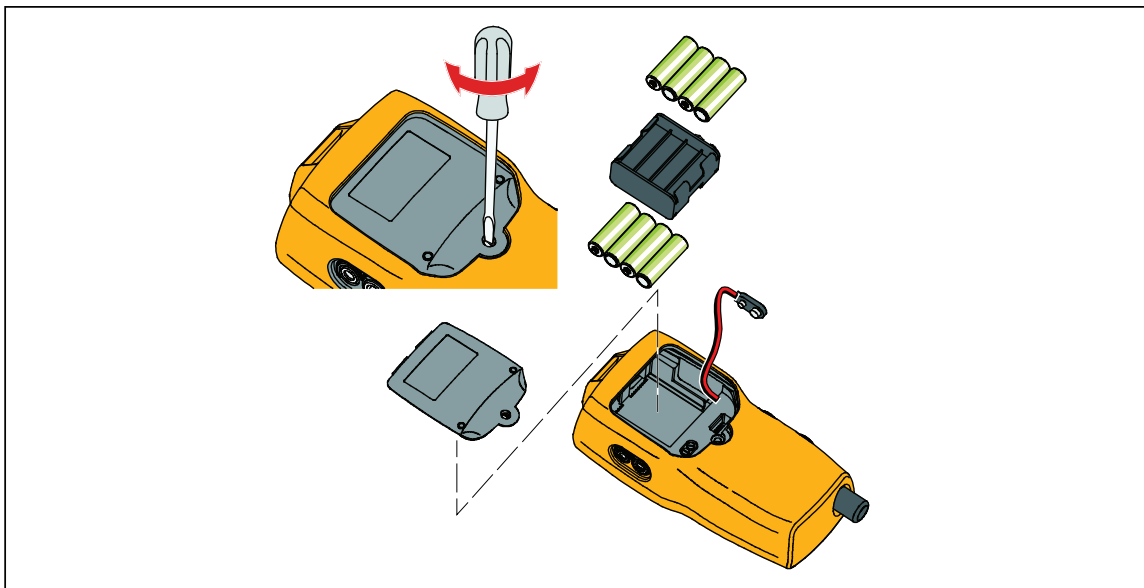

Figure 1. Battery Replacement
To change the batteries, see Figure 1:
1. With a small screwdriver, remove the two valve retention caps located in the battery compartment area (see Figure 1).